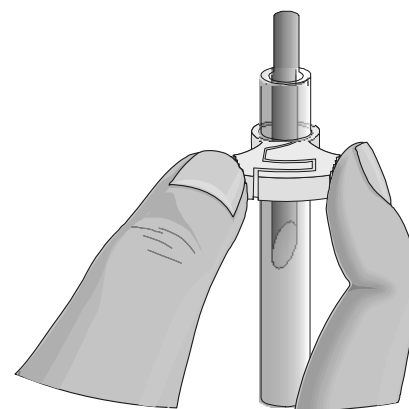

Figure 3
- d. Squeeze the tubing clamp shut as tight as possible as shown in Figure 3.